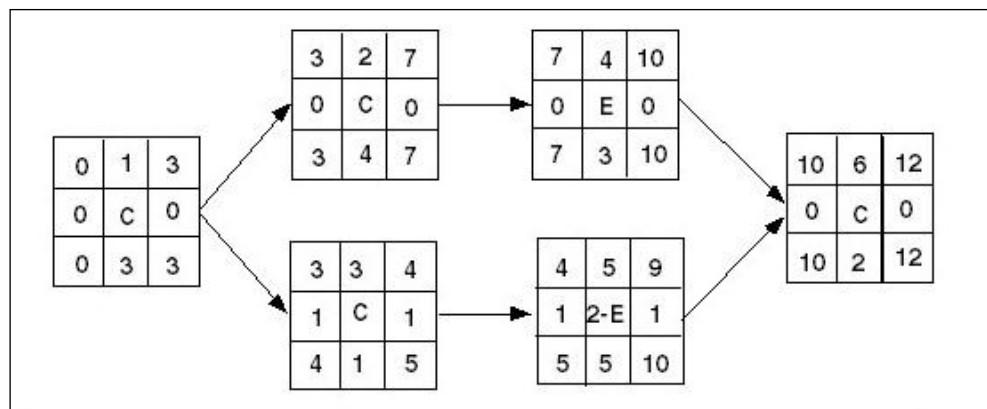

Figure 1: Project Network
4. Figure 1 shows a project network.